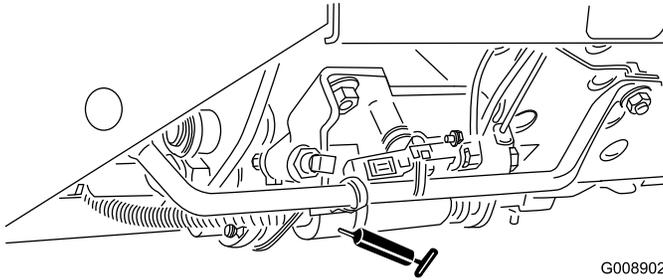

Figure 41
- Mow/Transport slide (Figure 41)